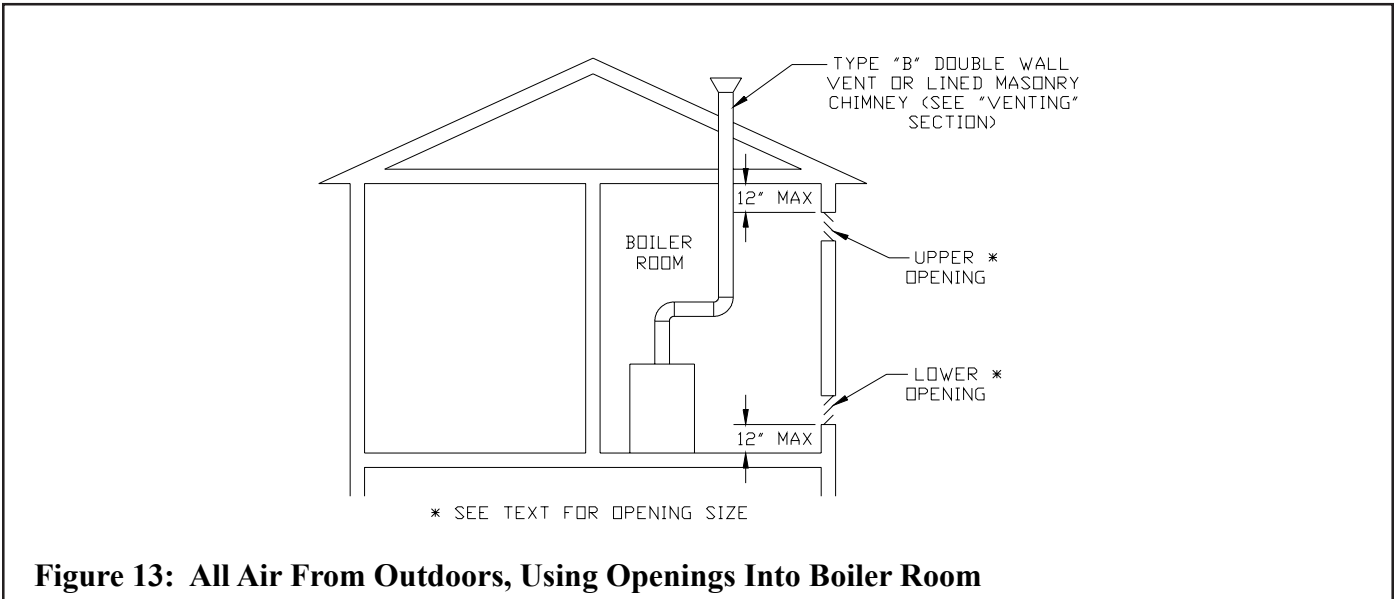

Figure 13: All Air From Outdoors, Using Openings Into Boiler Room
- a. **Direct communication with outdoors** (Figure 13) require a minimum free area of 1 square inch per 4,000 Btu per hour input based on all fuel burning appliances in the boiler room space but not less than 100 square inches. The minimum opening size is 3 inches.